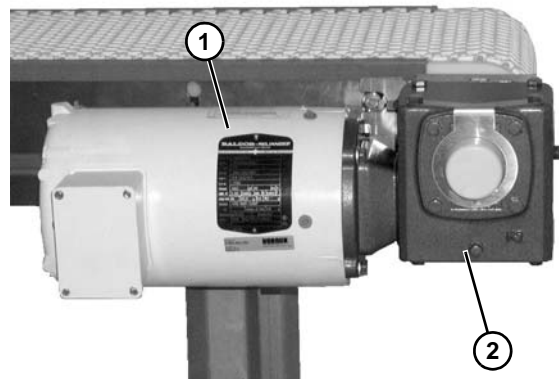

Figure 30
1. Attach the motor (**Figure 30, item 1**) to the gear reducer (**Figure 30, item 2**).